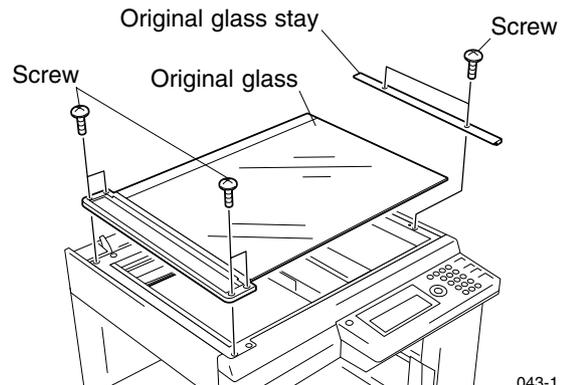

Fig. 7-8-6
6. Remove original glass. (See Fig. 7-8-6)
2. Remove original glass. (See Fig. 7-8-6)